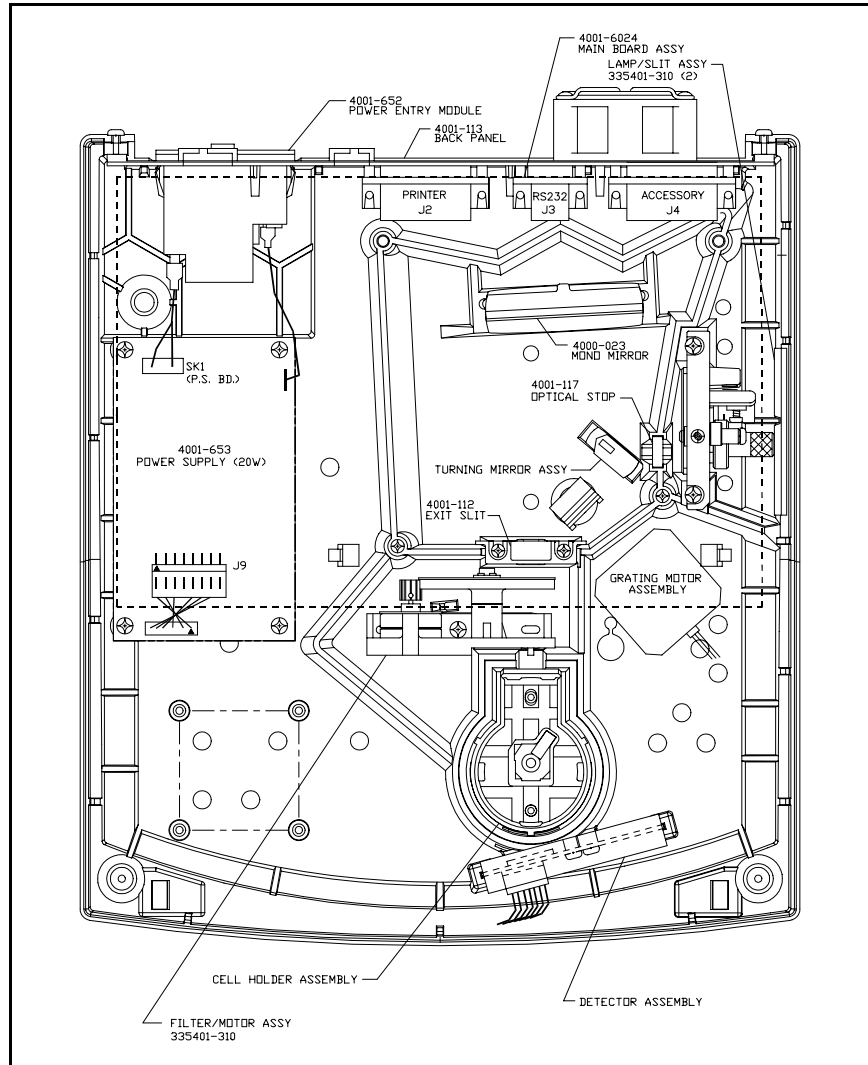

Figure 9.9 - Interior Layout
4. Disconnect the connector for the wire harness to the power entry module from the socket on the power supply (refer to Figure 9.9).